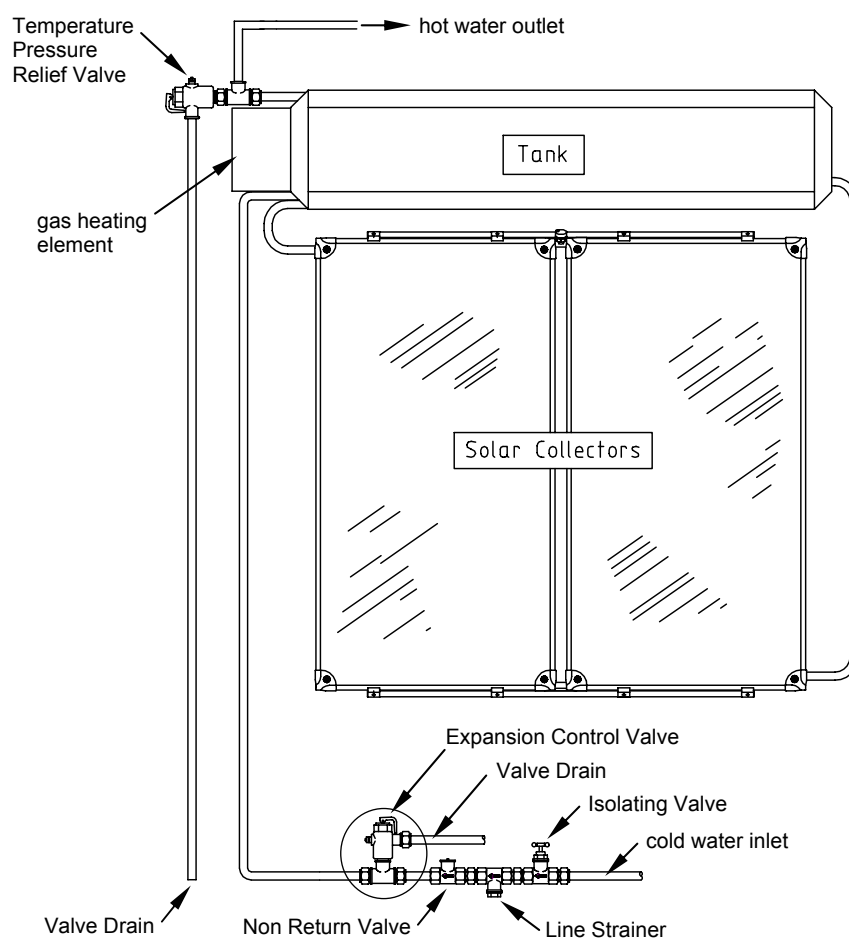

Figure 2 Typical Thermosyphon System Plumbing Diagram
- (i) Refer to the Typical Thermosyphon System Plumbing Diagram (Figure 2 on page 7) for cold supply pipe work connection locations. Thermosyphon System supply is connected to the tank fitting marked "Inlet".
- (i) Refer to the Typical Thermosyphon System Plumbing Diagram (Figure 2 on page 7) for hot supply pipework connection locations.